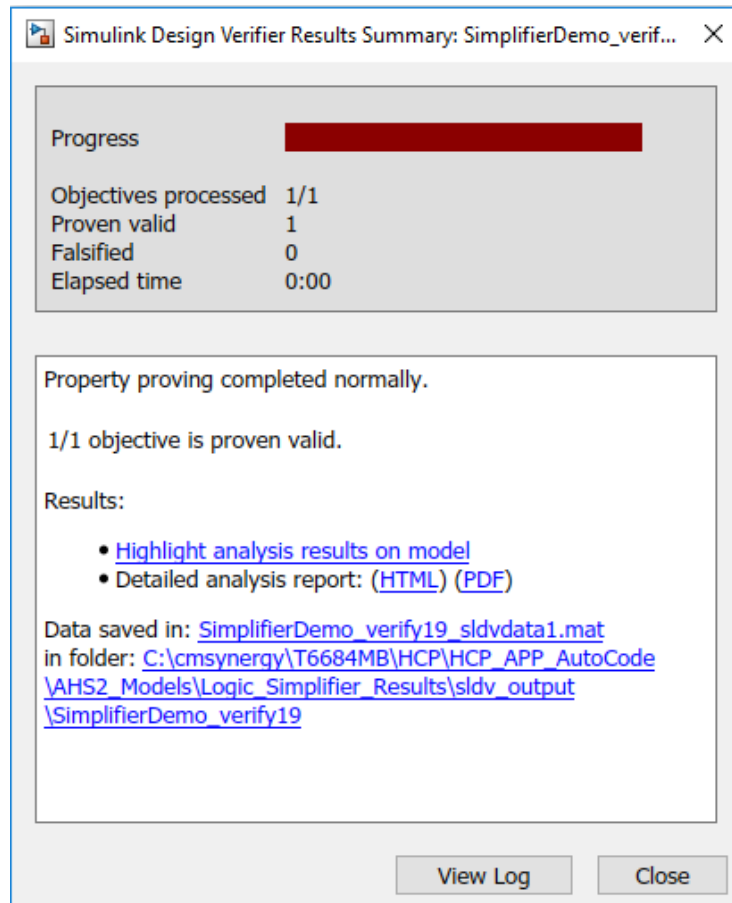

Figure 6: Simulink Design Verifier results summary, with all objectives processed and proven valid.
5. The “verification model” will feed the same inputs to the harnessed models and compare values of the outputs via the `==` operator and send the results to Design Verifier Proof Objectives. The user should select **Analysis > Design Verifier > Prove Properties > Model** from the menubar. If in the results summary shows that all objectives were processed and proven valid and that 0 were falsified, then the simplification was valid (shown in Figure 6). Otherwise the simplification produced an incorrect result or the verification model was not generated properly (or both).
A “Simulink Design Verifier Results Summary” window will open and display the progress of this operation, as shown in Figure 6. Once the proving operation is complete, the summary window will update to show how many of the properties it was able to prove to be valid or false. The number of properties corresponds to the number of outputs that should be equivalent. Detailed result reports are available in the links.